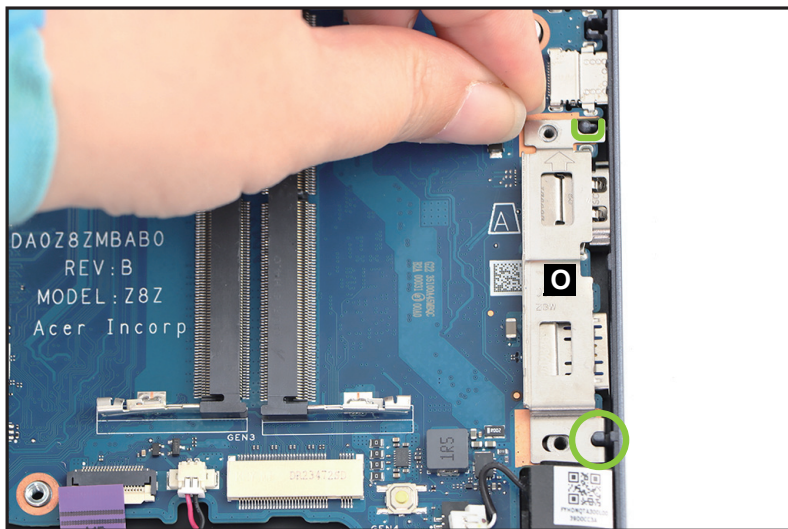

Figure 1-57. Mainboard Removal
14. Lift to release the left I/O bracket (O) from the compartment studs (highlighted with the green line and circle) (Figure 1-57). Then remove the bracket.